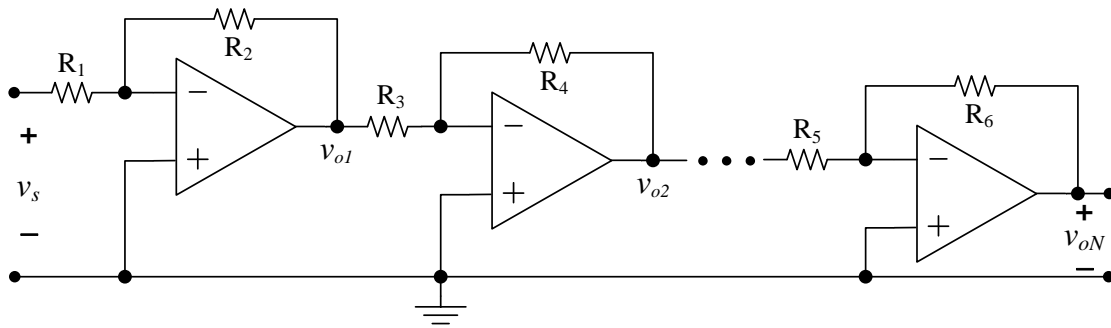

Figure 1: Cascaded amplifier using inverting amplifier
This means that the inverting amplifier has frequency response of a low pass function with DC gain of $-R_2/R_1$ and -3dB pole at $\omega_T = (1 + R_2/R_1)$. Also, it can be seen that as the gain increases the bandwidth decreases. In fact, this is considered to be the most serious disadvantage of using op amp (i.e. the conflict between gain and bandwidth of op amp based circuits). Also, it is worth mentioning that the unity gain inverting amplifier has 3dB frequency of $f_T/2$. One solution to circumvent this problem is through cascading several (N) simple amplifiers as shown in Figure 1.